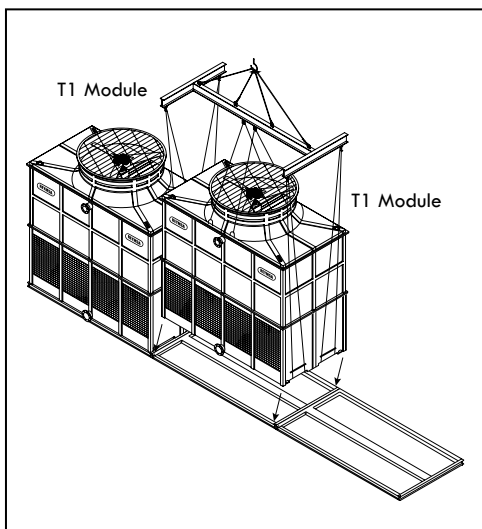

Figure A-101: S-Orientation - T1 module lifting and installation (RTGM-B-S & RTGMTC-C2-S)
- B. Follow the same procedure to install the next module. This module should have only two air inlets (on the large sides). See Figure A-101 for reference.